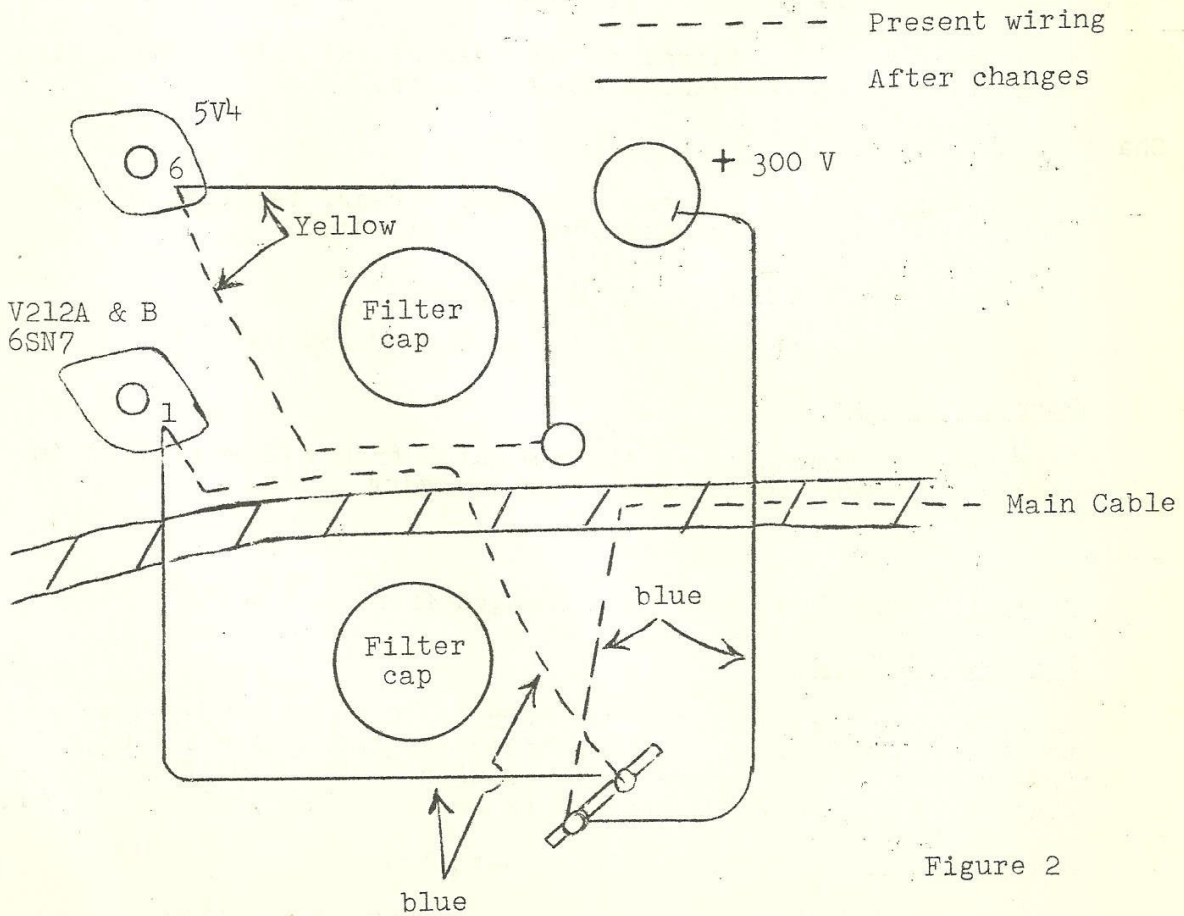

Figure 2
2. In addition to the above wiring change, it was necessary to redress certain leads to eliminate pick up in the sync circuits. The proper lead dress is described in items (a) and (b) below and illustrated in Figure 2.